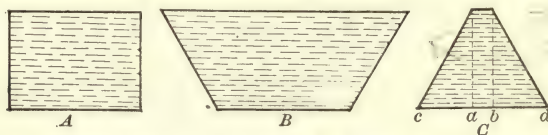
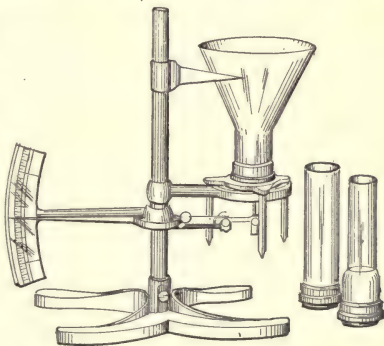

FIG. 50. — Vessels with (A) vertical, (B) flaring, and (C) conical sides.
FIG. 51. — Pascal's vases.
58. Bottom pressure and shape of vessel. So far we have considered vessels with vertical sides such as *A* in figure 50.
In the ordinary pail, however, the sides are not vertical, but flare outward as shown in *B* in figure 50. Perhaps one might expect that the pressure on each square centimeter of the bottom would be greater than in case *A*, because there is so much more water in the vessel. This, however, is not the case. Each square centimeter of the bottom has to hold
59. Experiments with Pascal's vases. The apparatus (Fig. 51) consists of three glass vessels of shapes to correspond roughly to *A*, *B*, and *C* in figure 50. The bottom of each vessel is made the same size and screws into a short cylinder, across the bottom of which is tied a disk of sheet rubber. The pointer below is a lever with its short arm pressing against the center of the rubber disk, and the long arm moves up and down across a scale.